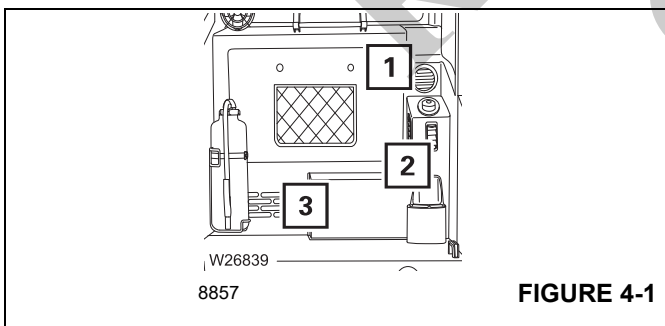

FIGURE 4-1
Do not cover the grilles (1), (Figure 4-1), (2) and (3).
- Air is drawn in through grilles (2) and (3).
- The grille (1) is used to ventilate the electronics.